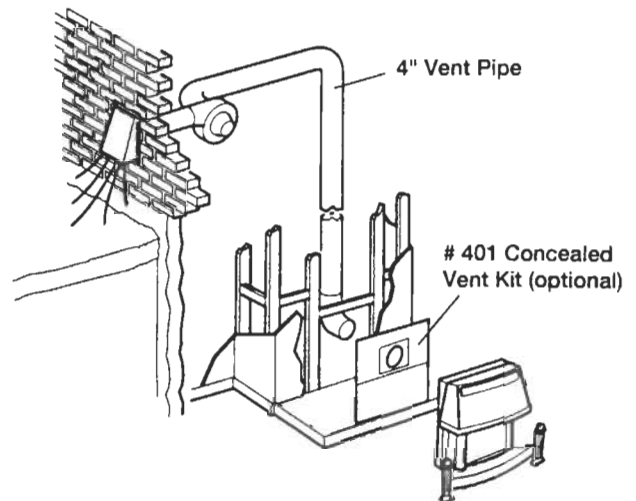

Fig. 4. SIDEWALL VENTING
4. With a sidewall vent. For this application the heater must be fitted to a power vent system using the optional #501PVK power vent kit. This allows the heater to sidewall vent through any approved 4" diameter vent to a remote fan hood up to 75 feet from the appliance. #401 CVK Concealed vent kit is also usually employed for this type of installation (*see figure 4*).